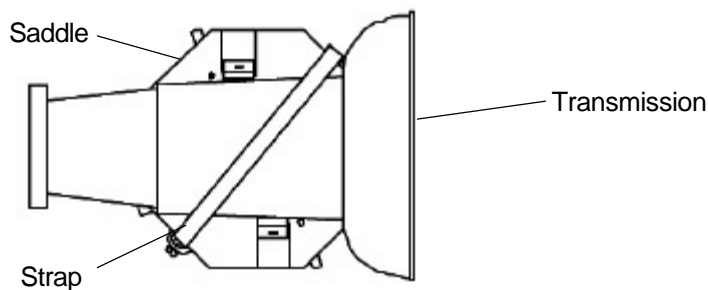

Figure 4
8. Secure the transmission to the jack by placing the strap over the trasmission, hook it in the hook ring, and then pull the strap tight. (see Figure 4)